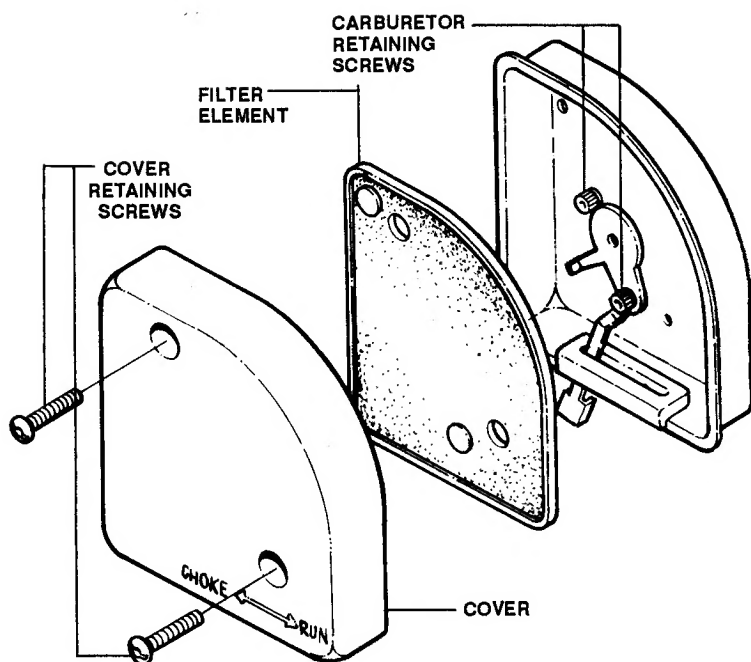

FIGURE 18
1. To remove the air filter assembly, remove the two air filter cover retaining screws. Lift the cover off and remove the air filter seated in the back of the cover. See Figure 18.
2. Remove the two inner air filter screws and remove the carburetor, manifold and gaskets. As always, make note of the order and position in which the components are removed. Replace all worn or torn gaskets. Refer to Figure 18.
3. Reinstall the air filter assembly, be certain to place the two (2) washers/spacers beneath the choke plate. Tighten the airbox retaining screw on the choke plate lightly and test movement of choke shutter before final torque. Torque to 25 - 30 in. lbs. Some metal airbox units were equipped with carburetor studs instead of screws. In those cases, nuts retained the airbox. Tighten nut to 20 - 25 in. lbs. Refer to Figure 18.